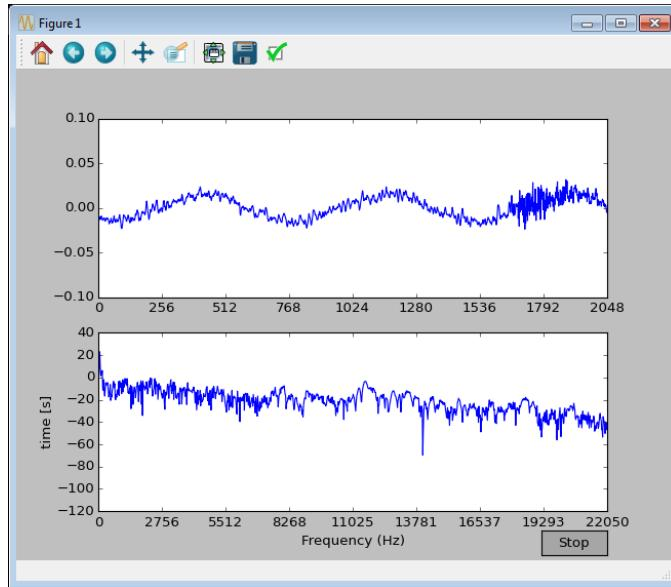

Figure 16: Screen capture of the microphone signal capture program.
Fig. 16 shows the schematic of the active LPF circuit. The filter has a cut-off frequency of **15 kHz** and was designed with the TI WEBENCH filter design tool.
1. Identify the gain stage (between point 1 and point 2 Fig. 16). What is the expression of its gain? Notice that the +2.5 V supply does not affect this result, rather it simply sets the bias of the overall amplifier
1. Identify the active LPF portion of the circuit (between point 2 and point 3 in Fig. 16). The overall filter consists of 2 low pass filters. What is the order of the overall filter and how is it determined from the schematic?
3. To measure the filter response only, input a 3 Vpp signal through a series 1 nF capacitor at point 2 in Fig. 16 and measure the output through R14 (at point 3 in Fig. 16). Tabulate and plot the frequency response from 100 Hz to 150 kHz. What is the cutoff frequency of the filter?